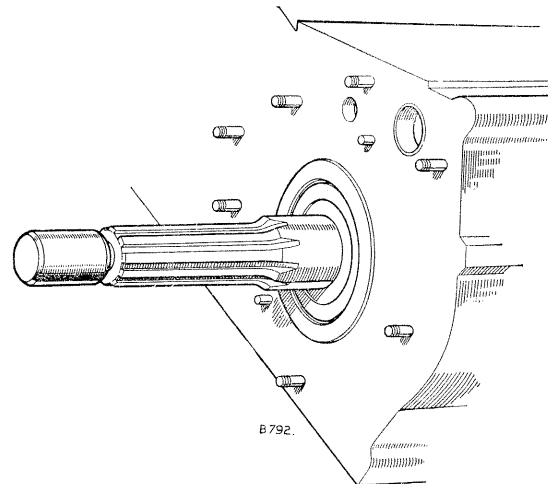

Fig. C-17—Fitting transfer box output shaft protection cap
9. Place the protection cap (Part No. 243241) on the threaded portion of transfer box output shaft (Fig. C-17) and drive the shaft until the front bearing is hard against the circlip. Lightly tap the rear bearing outer race until all the end-float of the output shaft has been taken up.